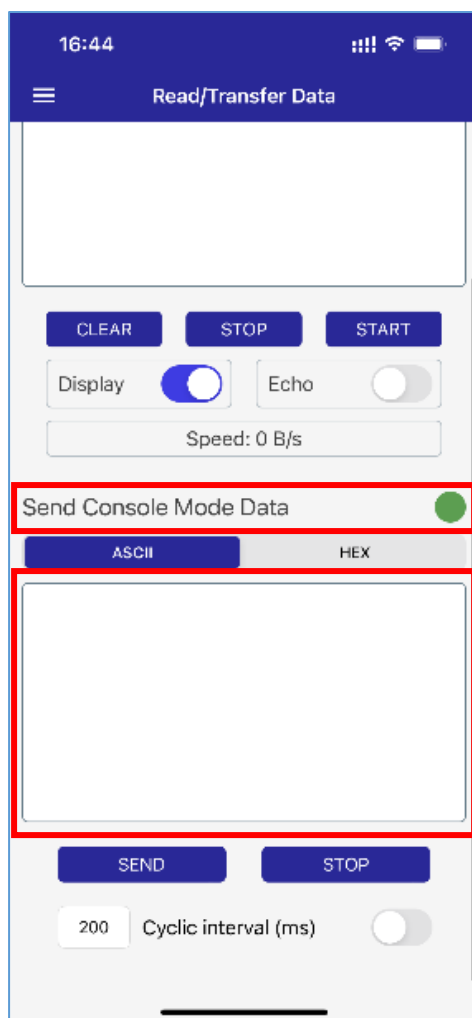

Figure 9. Send Console Mode Text Box
4. Use the text box named *Send Console Mode Data* at the bottom of the screen (see Figure 9) to send data to the specified DA14531MOD via the keyboard tapping.